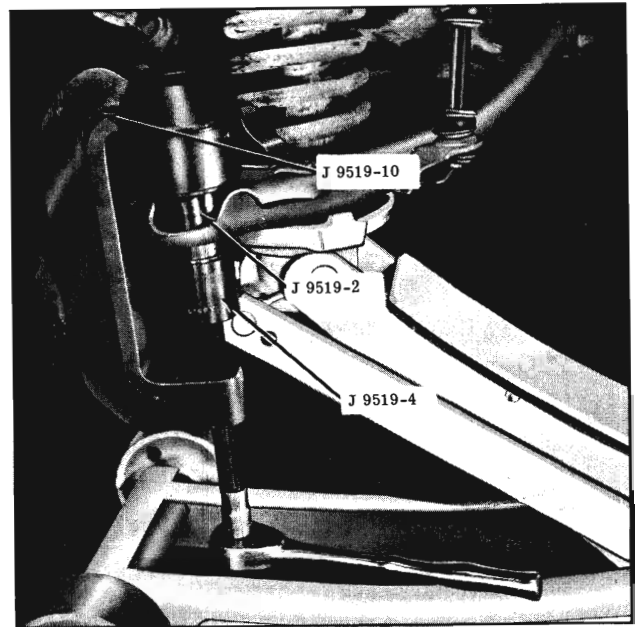

Fig. 5-112 Installing Ball Joint
1. Position ball joint into lower control arm and press in until it bottoms on the control arm using tools as illustrated in Fig. 5-112.